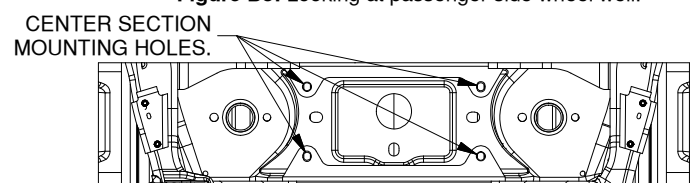

Figure B4: Looking up at frame cross member under truck
2. **Install fastener handles:** Place the fastener handles, see Figure B2, between the frame cross member and the bed, see Figure B3. Use the handle to guide the welded nuts into place. Make sure that the two nuts are directly over the holes in the frame, see Figure B4.